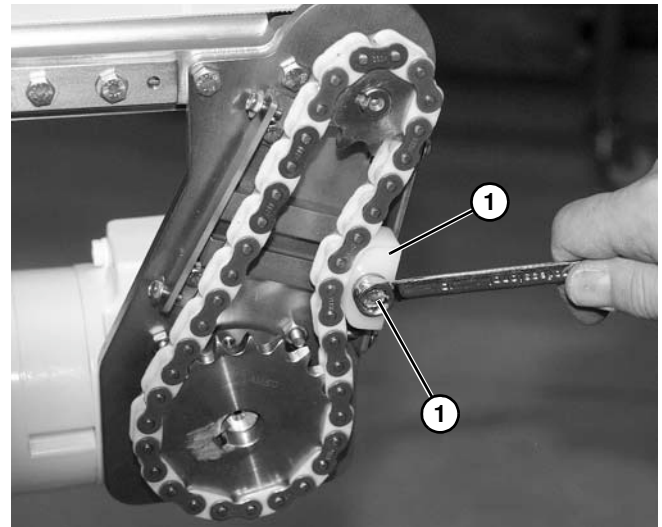

Figure 36
- Slide chain tensioner (**Figure 36, item 1**) to take up chain slack. Tighten chain tensioner screw (**Figure 36, item 2**).